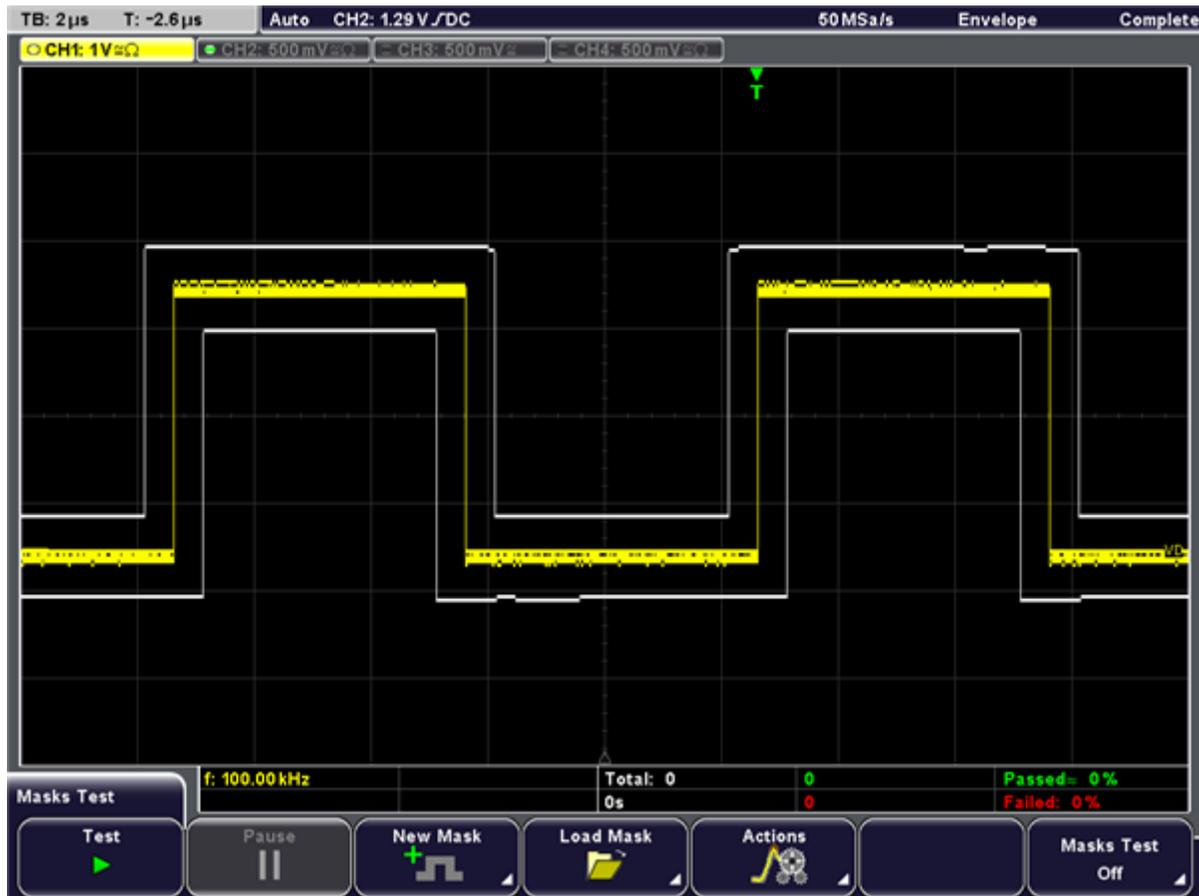

Figure 3. Noise Immunity Mask Test without Noise Injection
A noise immunity test is based on a mask test. As Figure 3 shows, the yellow waveform is the output signal of an MLVDS receiver without noise injected. The white mask indicates the 0.2 unit interval (UI) jitter limit. For a given noise frequency, the mask test starts with the maximum injected noise power, which you set manually. If the output jitter violates the mask, the injected noise power decreases in large steps until the output jitter no longer violates the mask limits. The injected noise power then increases in small steps until a violation occurs. The noise immunity level for this frequency is the maximum injected noise power that does not violate the output jitter mask.